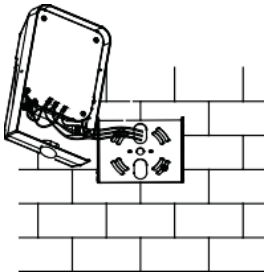

Figure 5
6. Push the wires and connectors back into the junction box, and then mount the luminaire on bracket (see Figure 5).
9. Push the wires and connectors back into the bottom of the luminaire housing, then mount the luminaire on bracket (see Figure 5).